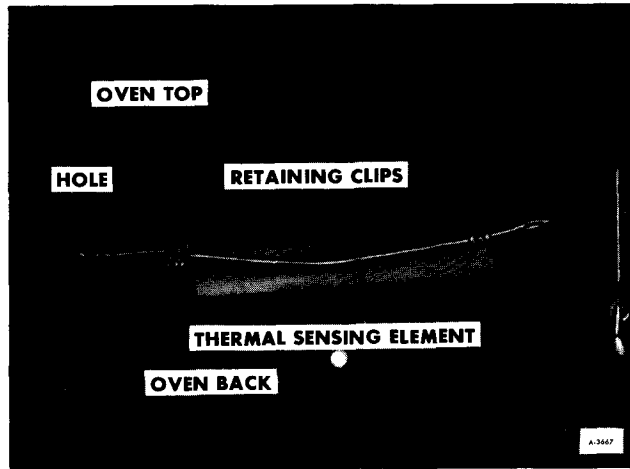

Figure 10—Location of Thermal Sensing Element in Oven
5. At the top of the oven compartment, remove the thermal sensing element from retaining clips and carefully feed this element up through the hole in the top of the oven compartment (figure 10).